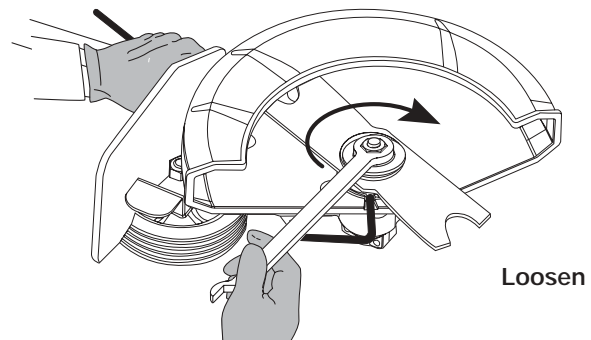

Fig. 31
3. While holding the locking rod, loosen the nut on the blade by turning it **clockwise** with a 5/8 inch wrench (Fig. 31). Remove the nut, retaining washer and blade. Keep the nut and blade retainer for installation.